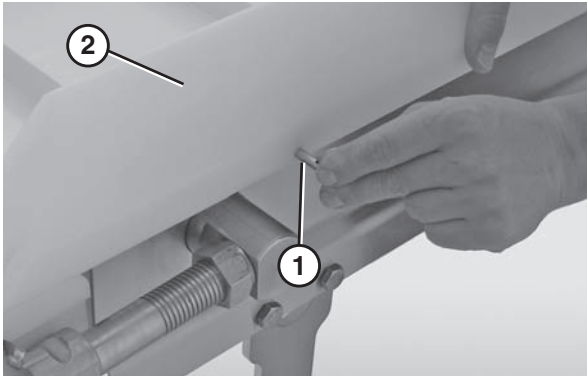

Figure 45
1. Remove the pull pins (Figure 45, item 1) that connect the guide (Figure 45, item 2) to the frame.